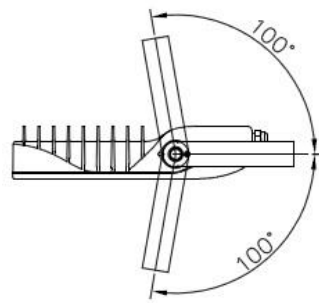

Fig4
2. To set the angle of the luminaire loosen the grub screw and then use a spanner to loosen the nut. The luminaire will then freely pivot on the bracket. Once you have set the luminaire to the desired angle tighten the nut with a spanner then tighten the grub screw to the torque ratings as shown in fig.3. You may wish to set the angle before or after wiring the luminaire in place. Note that you should not angle the luminaire greater than 100° off horizontal (fig.4).